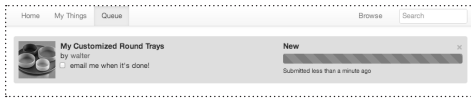

Fig. 13.2
3. The Creating your Customized STL dialog box will display a message telling you that it is generating your file. Click the link Go to my Queue to see the status of the file. [Fig. 13.2]